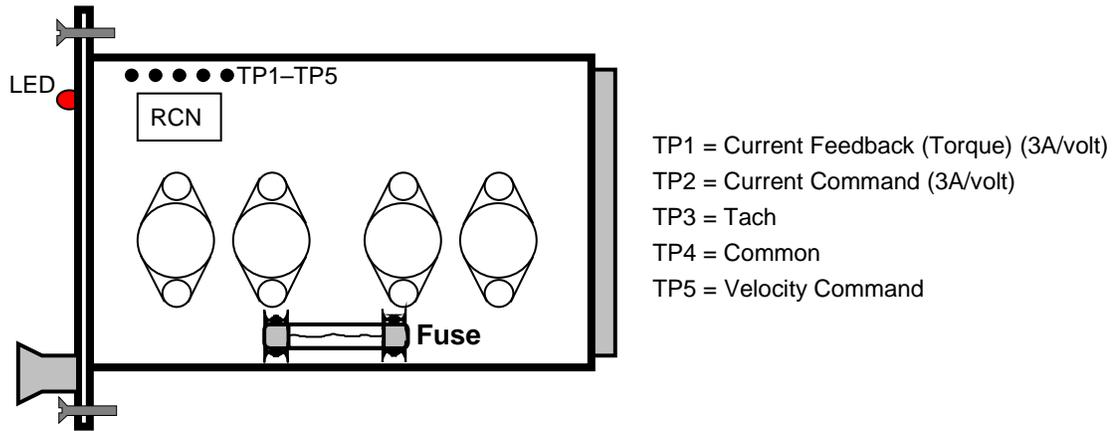

Figure 6-21. Cross-Section of the DS16020/16030 Amplifier
- a. Select a fuse to protect the motor for the continuous current rating of the motor and insert it in the appropriate fuse holder of the amplifier. Refer to Figure 6-21 for location of the fuse holder.